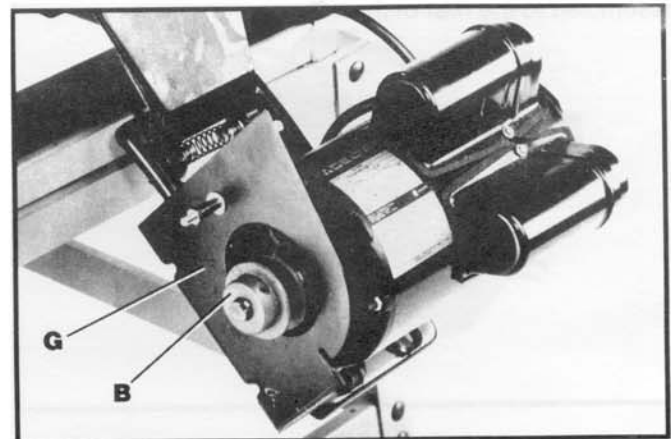

Fig. 14
- 5 Position belt and pulley guard bracket (G) Fig. 14, so the motor pulley (B) is centered and through the hole in the belt and pulley guard bracket, as shown. Tighten the four hex nuts that fasten the motor to the motor mounting plate.
- 6 Using a straight edge, align the motor pulley with the arbor pulley. If necessary, adjust the motor pulley (B) Fig. 14, in or out on the motor shaft.